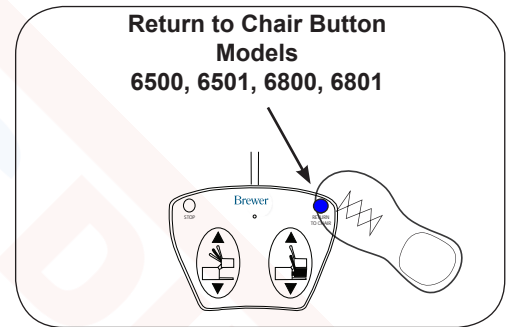

Figure 42. Lowering with Return to Chair
3. Press the blue button to engage the Return to Chair feature. (Figure 42)